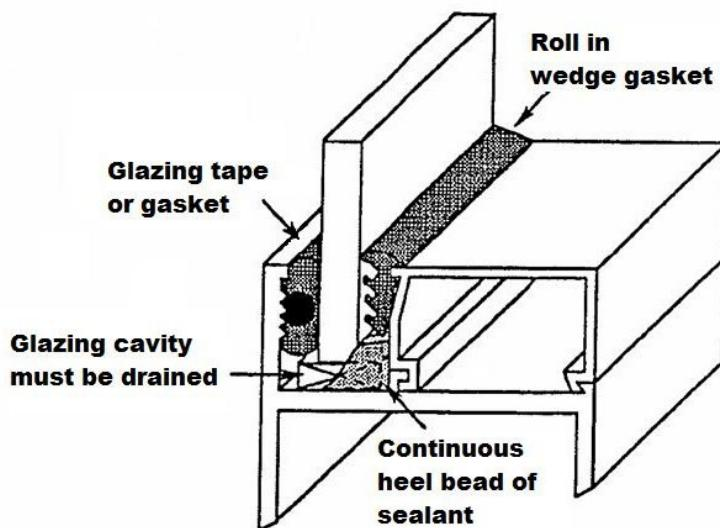

figure 4
**Heel Bead** – After the glass has been installed, a bead of sealant is used to bridge the joint between the glass and the sash or frame. This is a secondary line of defence against water penetration in a prime sealed window but in a rain screen window it becomes the primary seal. Heel beads should not be used unless the glazing cavity is drained. (see Figure 4).